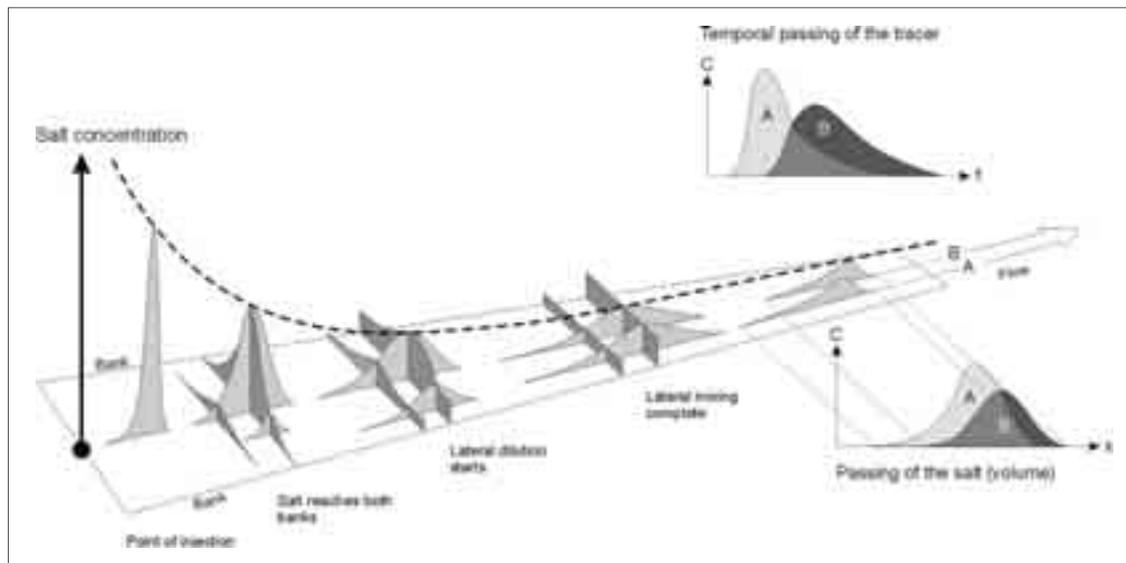

Figure 1: Mixing conditions in a stream (adapted from Wolf 1998)
Figure 1 shows the dilution conditions along a stretch of water after salt has been injected. At the beginning, the salt cloud is compact and the salt is unevenly distributed. With increasing distance from the injection point, the salt becomes evenly distributed throughout the cross-section of the watercourse and eventually reaches an optimal and even degree of dilution. It is at this point that the concentration should be measured.
The result of the conductivity field measurements in the stream is a concentration-time diagram at the measurement point as shown in Figure 1. Discharge is determined by integrating the area below the curve using the following equation
- Select the measurement length** – The next step is to identify the part of the stream along which the discharge is to be measured. The length of stream from the point of injection to the point at which the salt becomes fully mixed across the stream profile is known as the mixing length. A length of stream needs to be identified equal to the mixing length (as shown in Figure 1) that has no eddies with back flow effects or pools or ponds; no water extractions or inflows; and is not influenced by hanging vegetation. It should also be as short as possible (equal to the mixing length). A simple rule of thumb is to take a length 20-50 times the average width of the stream, or 100 times the width of the narrowest part of the stream.